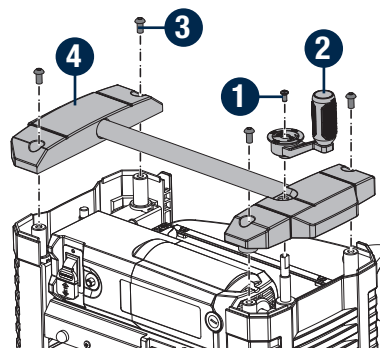

Fig. 19a
**REPLACE THE TIMING BELT (Fig. 19a–19e)**
- Loosen and remove flower pan head screw M6 x 12 (1). Remove the cutter head adjustment handle (2).
- Remove four hexagon socket flat head screws (3) from the top panel (4) of the planer.